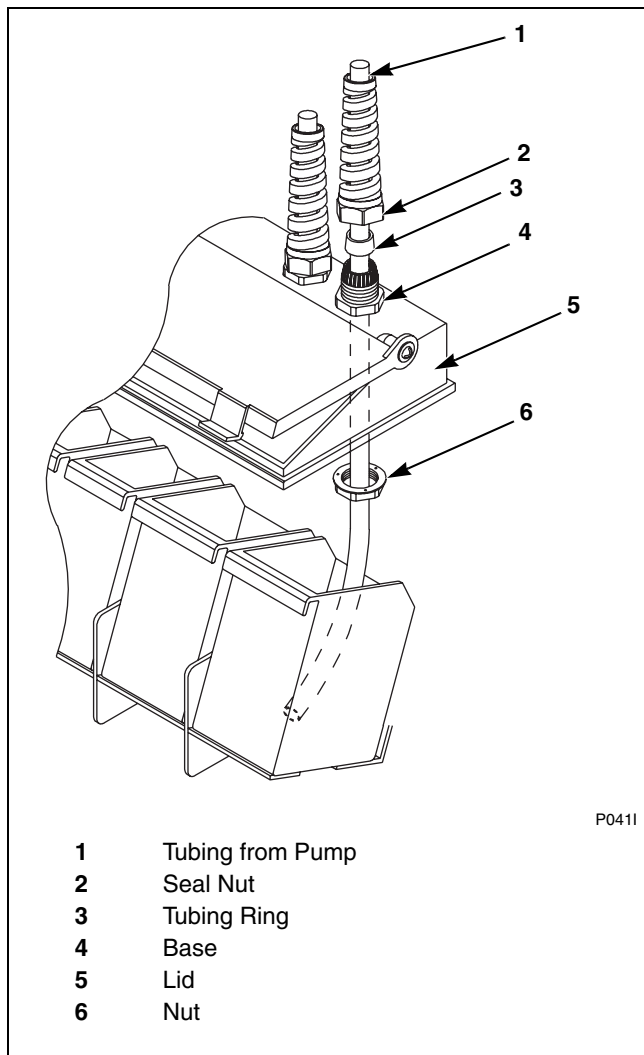

Figure 21
1. Remove plugs from base. Refer to *Figure 21*. Plugs are assembled inside the tubing ring.